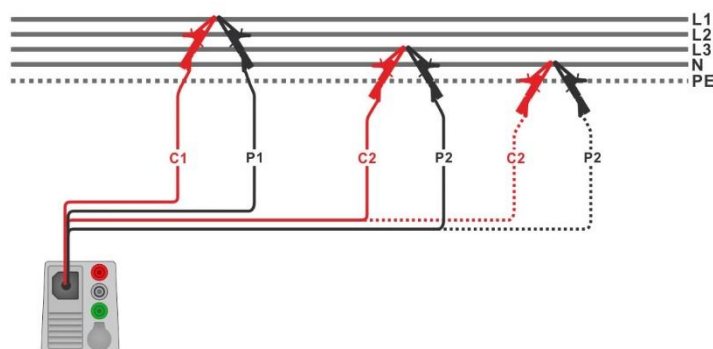

Figure 7.66: Phase-phase or phase-neutral 4-wire line impedance measurement
- › Connect 4-wire test lead to the object under test, see **Figure 7.66**.